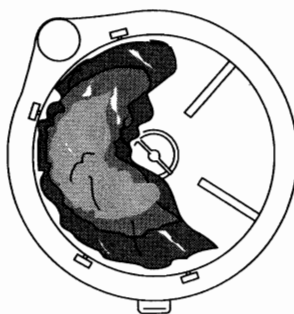

Fig. 5
- The large opening (Fig. 5) is ideal for lettuce and cabbage as well as dry bread, nuts etc.